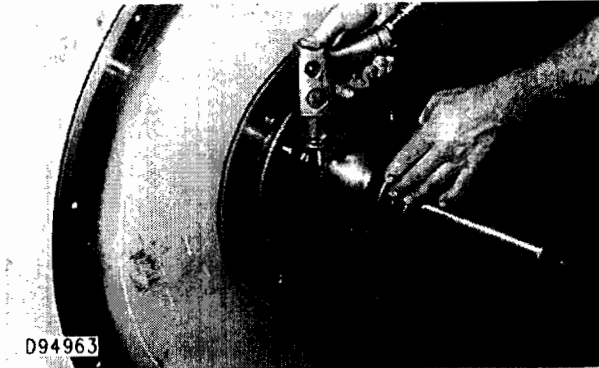

Figure 11
9. Remove the joint screws from the housing; remove the two halves of the housing. Leave the outer race in the housing. See figure 11.